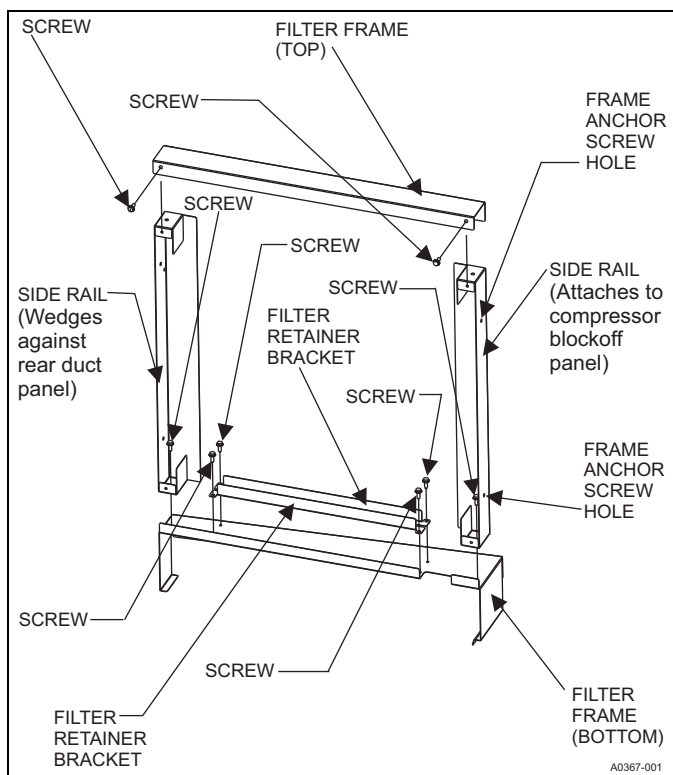
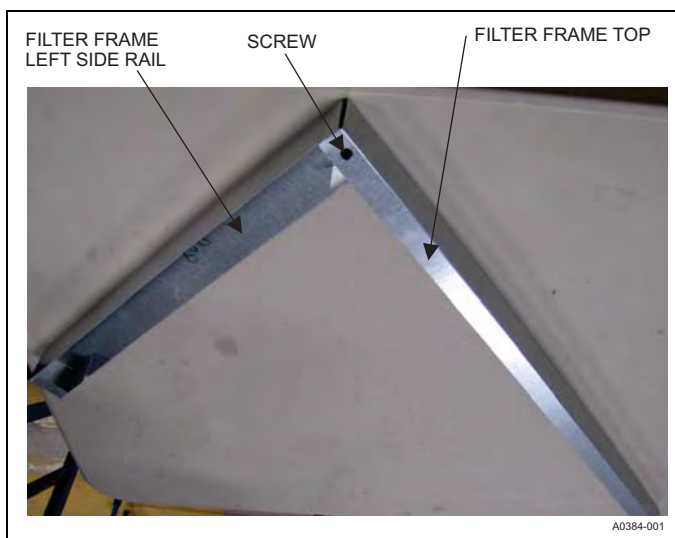

FIGURE 1: Filter Frame Kit Assembly
FIGURE 4: Assembly of Left Side Rail and Filter Frame Top
TABLE 2: Kit Parts (See Figure 1.)
4. Assemble top piece of filter frame to left side rail by sliding side rail into U channel of top filter frame, and install top screw as shown in Figure 4.
5. Place lower part of left side rail against filter frame bottom as shown in Figures 1 and 5. Install screw securing left side rail onto filter frame bottom piece.
6. Assemble top piece of filter frame to right side rail by sliding side rail into U channel of top filter frame, and install top screw. Place lower part of right side rail against filter frame bottom as shown in Figures 1 and 6. Install screw securing right side rail onto filter frame bottom piece.
7. Locate two anchor holes in right side rail so that holes can be used as a template on compressor block off panel. See Figure 1.
- a. Remove two mount screws from the right side rail of filter frame. See Figures 1 and 7.
- b. With parts outside the unit, assemble top piece of filter frame to left side rail by sliding side rail into U channel of top filter frame, and secure the two parts together by installing the top screw as shown in Figure 4. Inside the unit, place lower part of left side rail against filter frame bottom as shown in Figures 1 and 5. Install screw securing left side rail onto filter frame bottom piece.
- c. Assemble top piece of filter frame to right side rail by sliding side rail into U channel of top filter frame, and install top screw. Place lower part of right side rail against filter frame bottom as shown in Figures 1 and 6. Install screw securing right side rail onto filter frame bottom piece.